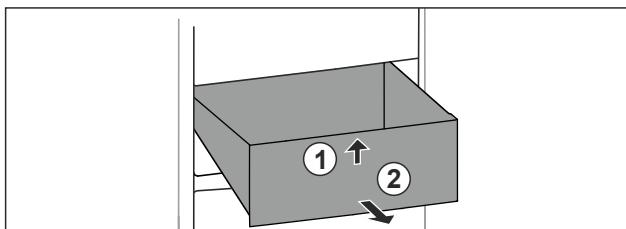

Fig. 76
- ▶ Lift up drawer at the front. Fig. 76 (1).
- ▶ Remove drawer to the front. Fig. 76 (2).